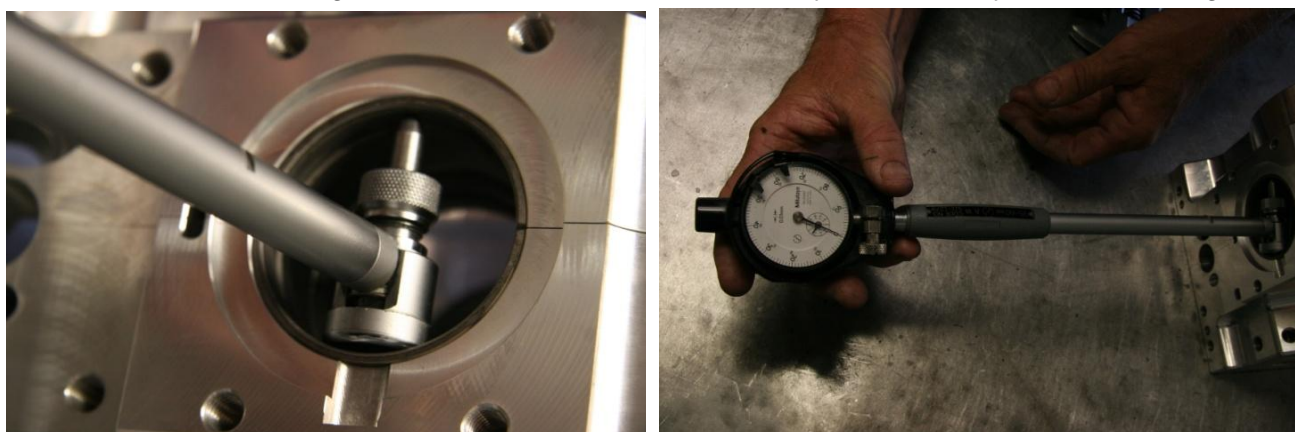

Figure 71 – Measuring Crankcase Bearing Tunnel
- **Clamp the case halves together using the old studs & nuts with 8mm packers under the nuts, torque to the value given in Table 9 for through bolts (use the value appropriate to the through bolt thread on the particular engine).** Torque in 3 stages, working from the centre studs out to the front & rear studs. Measure the main bearing and camshaft bore sizes horizontally and vertically as shown in Figure 71.